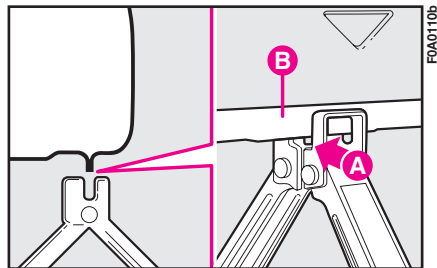

fig. 9
11) Insert the handle and open the jack so that groove **A-fig. 9** on the jack fits into the lower ribbing **B** on the sidemember.